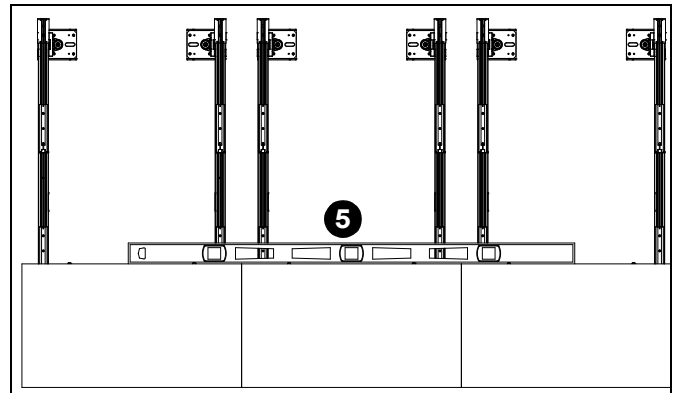

Figure 18
5. Use a 4-foot level or laser level to ensure bottom row of displays are horizontally level. (See Figure 18)